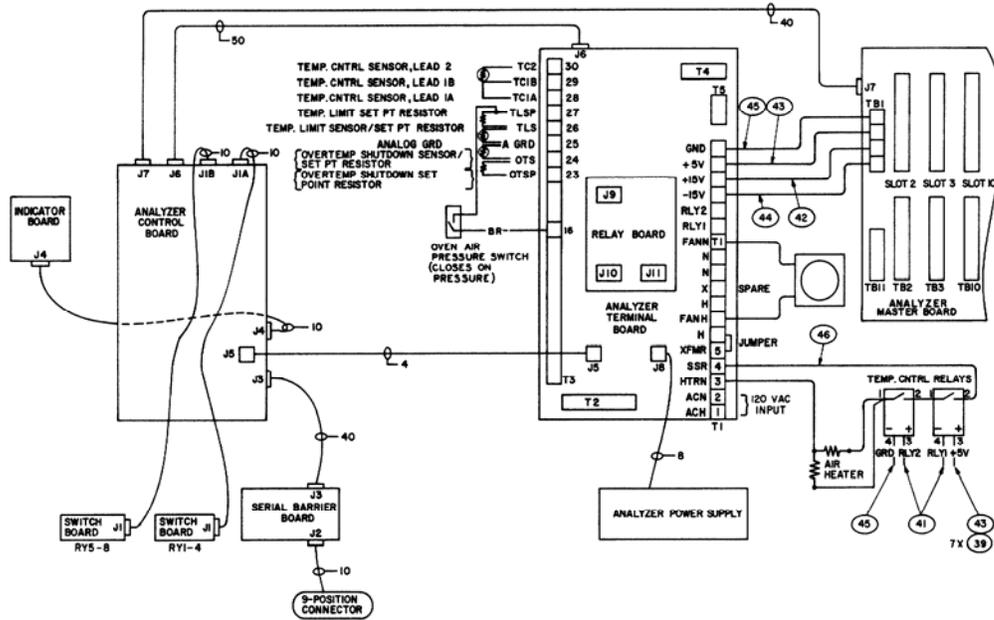

Figure 2-1: Advance Optichrom Electronics Enclosure, Wiring Interface Diagram
6.	<p>Remove the following cables that interconnect the door with the EC. See Figure 2-1.</p> <p>Ribbon Cable J6 (1682002-003) Ribbon Cable J7 (1682002-001) Power Supply Cable J8</p>  A close-up photograph of the EC board. Three ribbon cables are connected to the board. The cables are labeled J6, J7, and J8. J6 and J7 are at the top, and J8 is at the bottom right. The board is green and populated with various components.